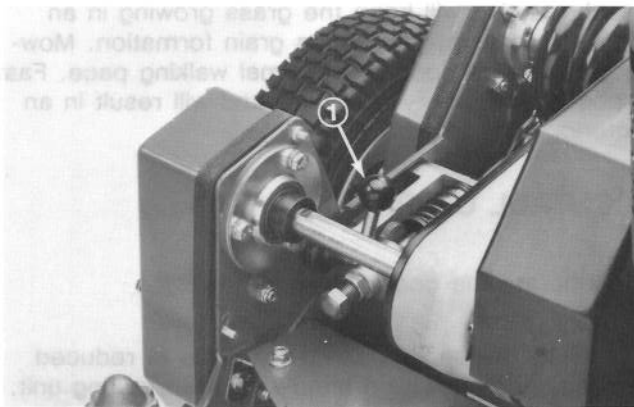

Figure 20
Reel Drive Engagement Lever (Fig. 20) - Located on right front corner of machine. Lever has two positions: ENGAGE and DISENGAGE. Pull up on lever to engage reel or push down on lever to disengage reel.
1. Make sure traction (Fig. 19) and reel drive (Fig. 20) levers are in DISENGAGED position.